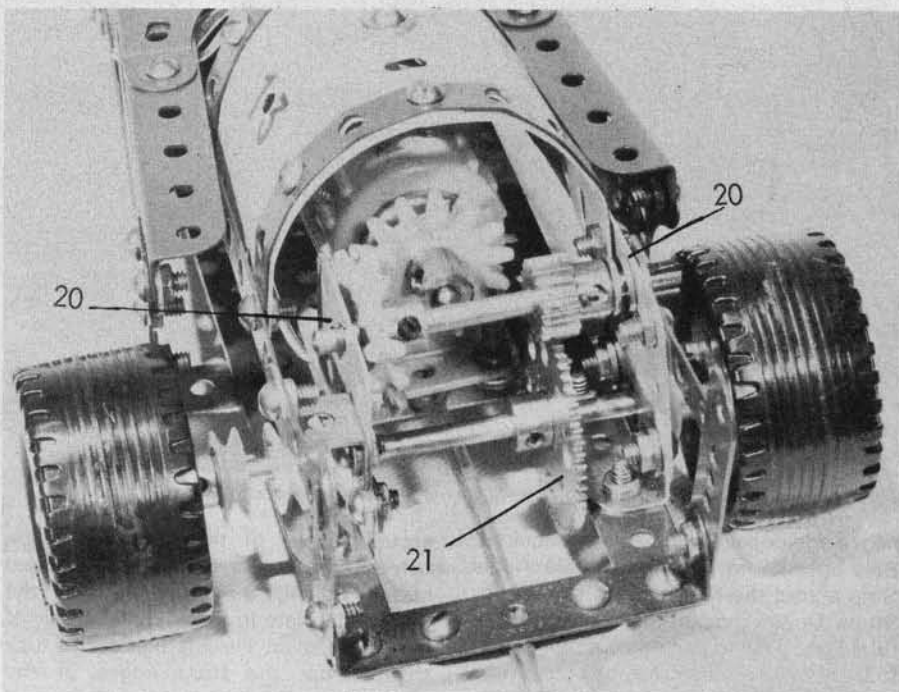

Fig. 5 Details of transmission and gear reduction to back axle.
flanges of the small Angle Girders and these plates (20) are adjusted later to give a 'clean meshing' for the gear drive. Through the centre top holes of these small plates, the $2\frac{1}{2}$ in. Axle Rod is fitted (from the left, Fig. 5) with a Washer, then the Plastic Multi-Purpose Gear Wheel locked onto the rod, followed by a 19t Pinion spaced away from the plate by two Washers. Finally, one more Washer and a Spring Clip are placed outboard on the end of the rod to maintain the lateral